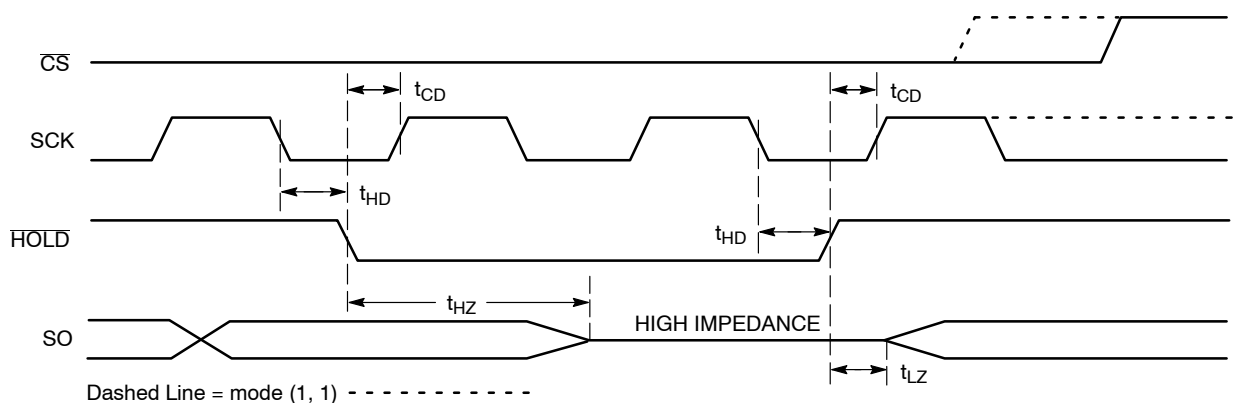

Figure 11.  $\overline{\text{HOLD}}$  Timing
The  $\overline{\text{HOLD}}$  input can be used to pause communication between host and CAV25512. To pause,  $\overline{\text{HOLD}}$  must be taken low while SCK is low (Figure 11). During the hold condition the device must remain selected ( $\overline{\text{CS}}$  low). During the pause, the data output pin (SO) is tri-stated (high impedance) and SI transitions are ignored. To resume communication,  $\overline{\text{HOLD}}$  must be taken high while SCK is low.